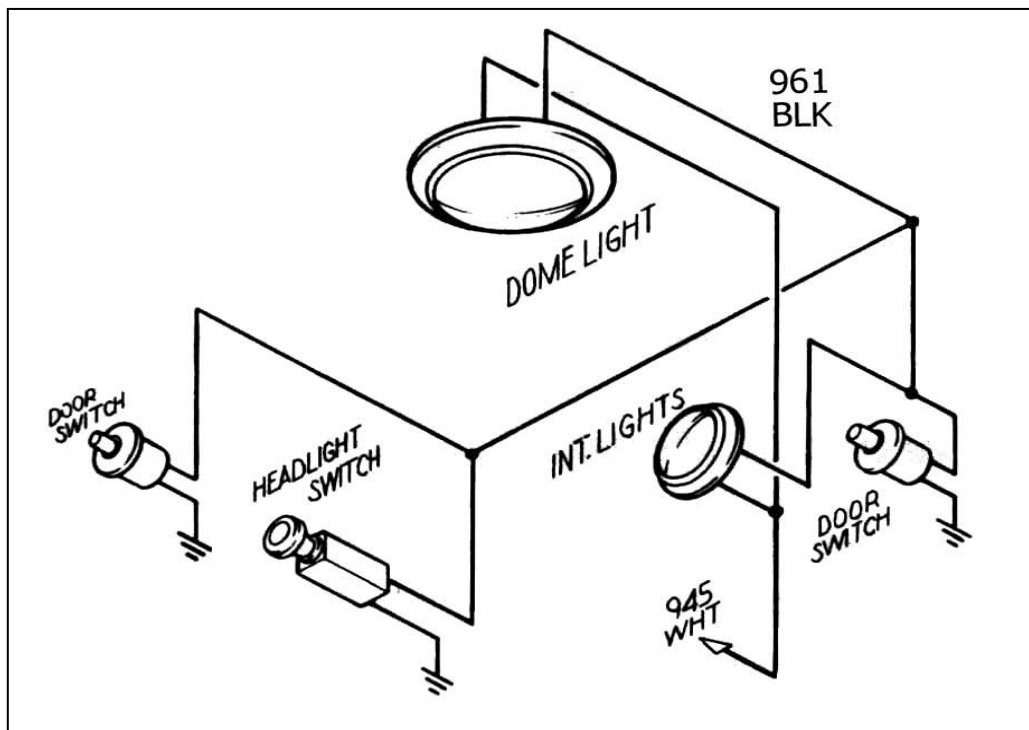

Figure 11-1 Interior Lighting (GM Style Jamb Switch – Painless Part #80170)
11.0 Interior Lighting. See Figure 11-1
- 11.1** Interior Lights are switched through the door switches and the dash-mounted headlight switch, which is usually rotated counter-clockwise to turn on. These switches apply ground to the circuit. YOU WILL NEED TO SUPPLY THESE GROUND WIRES. 12V is continually present at the light bulbs. See **Figure 11-1**.